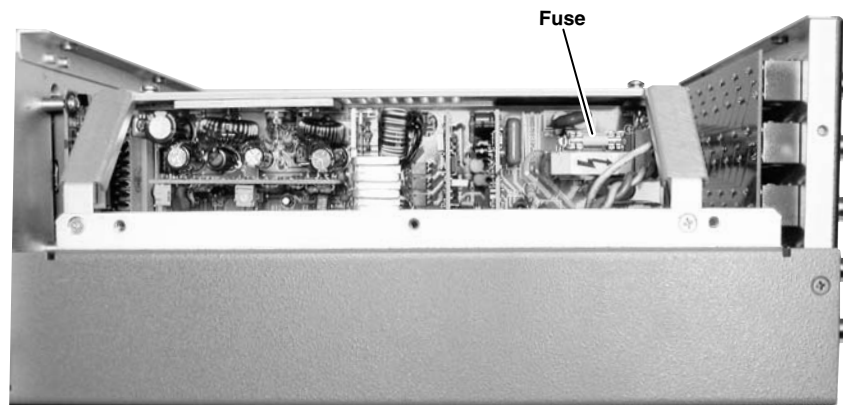

Figure B-3 — Replacing the fuse (viewed from the side)
If the switcher does not power on, and the AC power source is functioning correctly, the AC fuse may be blown. The fuse is located on the internal power supply which is located on the right side of the SGS, as viewed from the front (see figure B-3).
2. Locate the fuse on the power supply, and remove it from its retaining clips (see figure B-3).